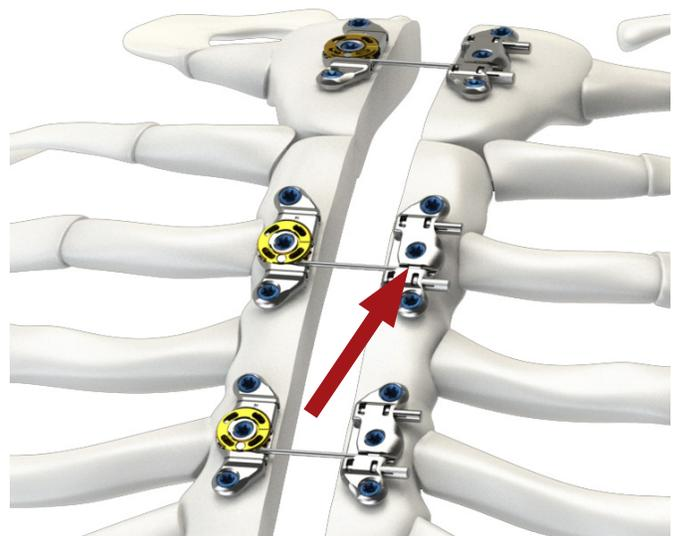

figure 10: Locking Element inserted into Shear Bar Plate slot
- Once gross sternum reduction is achieved, place the Locking Element into the capture slot in the opposing Shear Bar Plate (*figure 10*). Ensure that it is securely seated in the capture slot. Repeat this step if multiple Grand Pre implants are being utilized.